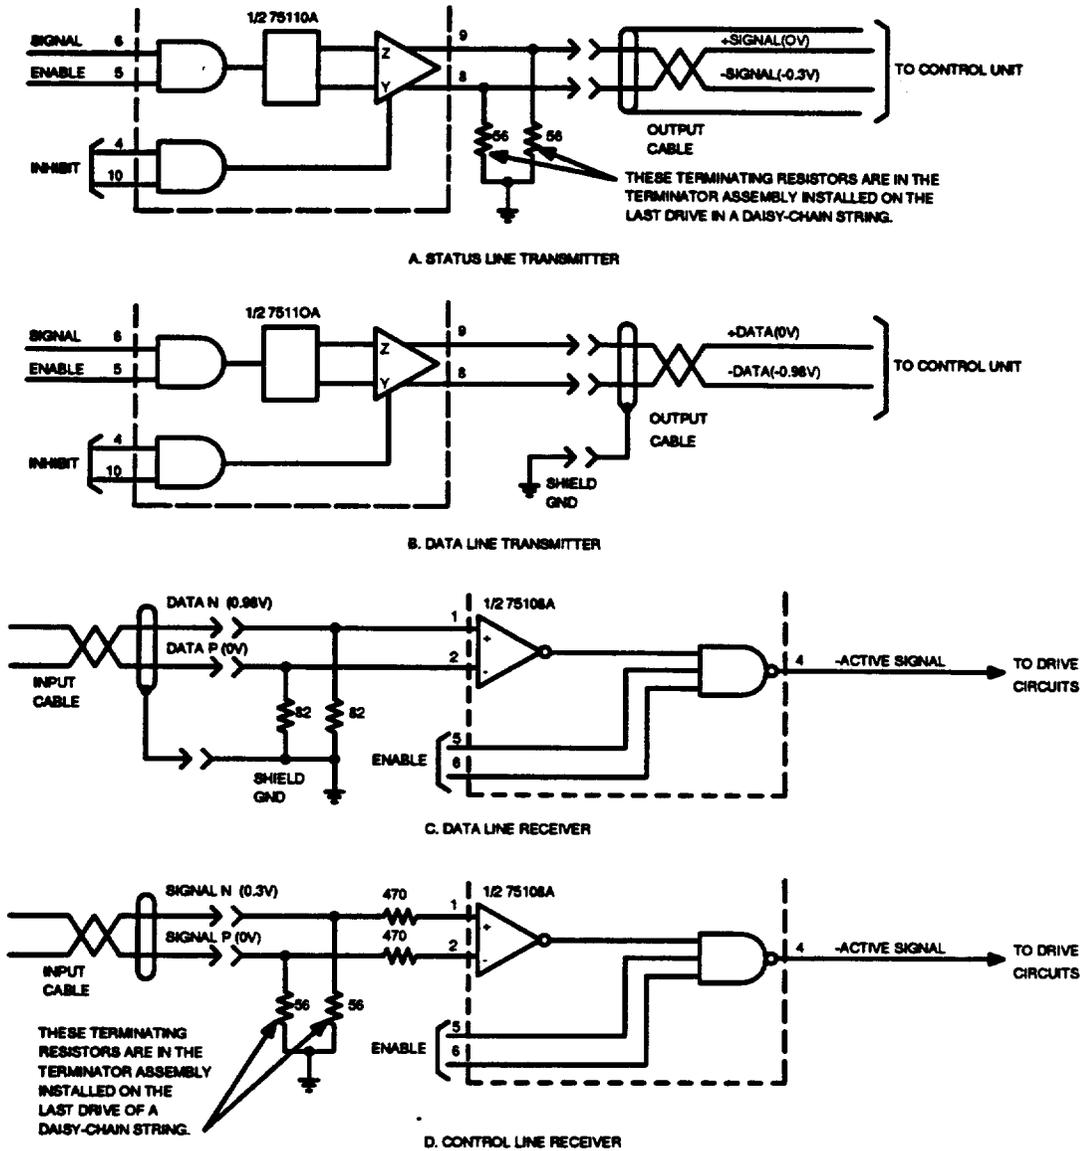

Figure 9. Line Drivers and Receivers
3.06 Signals between the disk drives and the DFC are carried over twisted pair leads driven by differential line drivers. Figure 9 is a simplified diagram of the connections between control and data drivers and receivers.